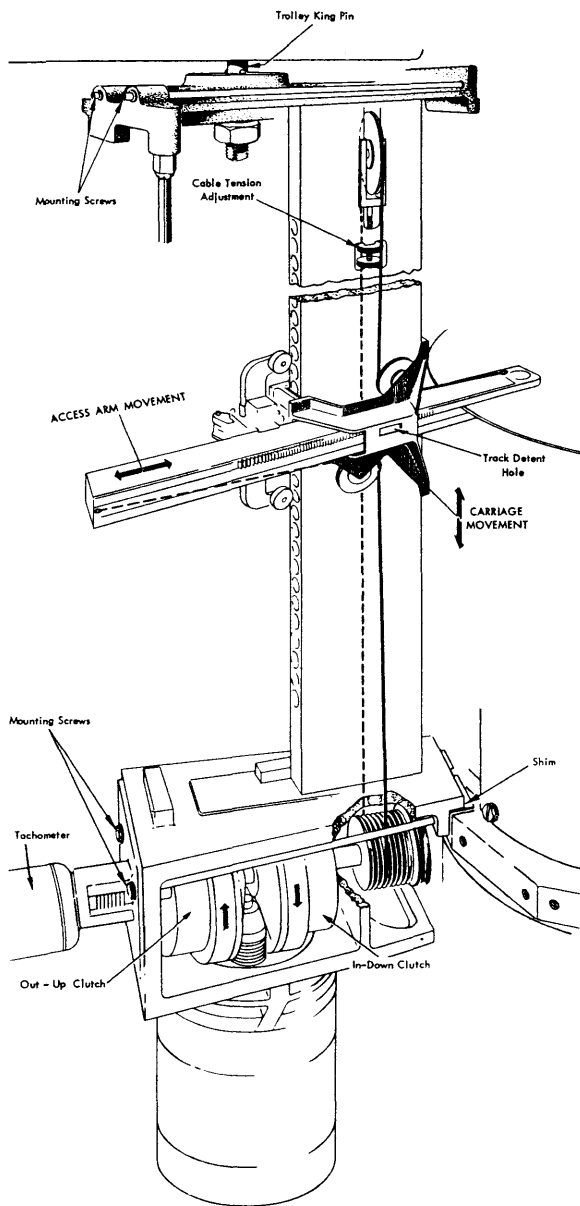

Figure 60. Access Mechanism
#### REMOVAL (FIGURE 60)
3. If a new access mechanism is being installed, it may be necessary to add or remove shims to position the mechanism for proper access arm to disk alignment (Figures 60 and 61). Shims can be peeled off in  $.003''$  sections if too thick.